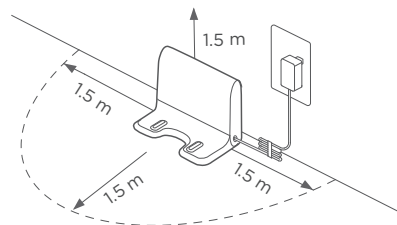

fig 3
3. Place charging base (fig 3).